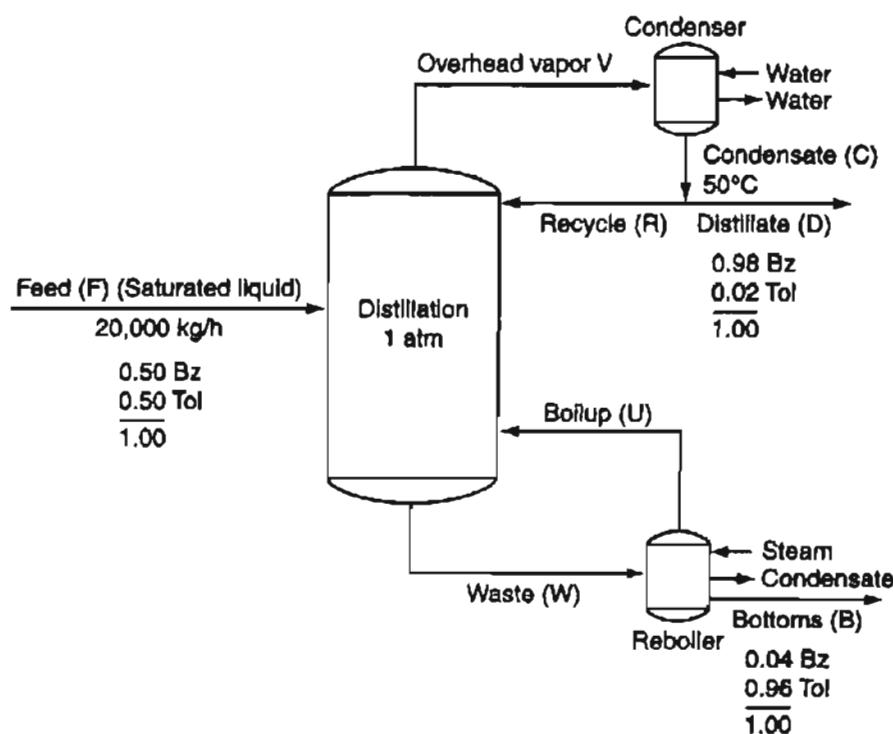
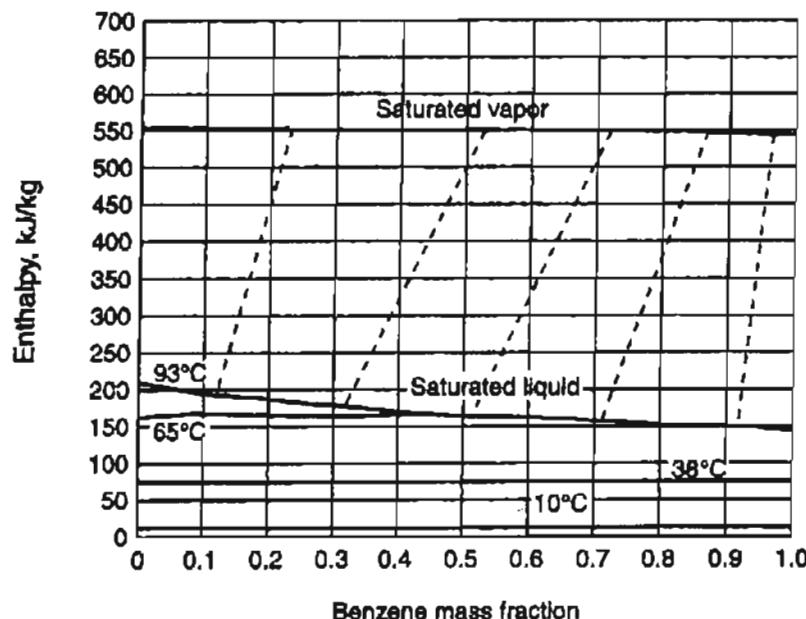

Figure E24.9a
Figure E24.9b The ends of the dashed lines show the equilibrium compositions between the liquid and vapor.
A feed of a mixture of benzene (Bz) and toluene (Tol) is separated as shown in Figure E24.9a. Calculate the values of the distillate (D), the bottoms (B), the heat duty (heat removed by the water) in the condenser (Q_C), and the heat duty (input) to the reboiler (Q_R). The recycle ratio R/D is 4.0.
Figure E24.9a contains most of the information pertaining to the problem. Enthalpy data will be taken from Figure E24.9b at the cost of some accuracy to save you time.